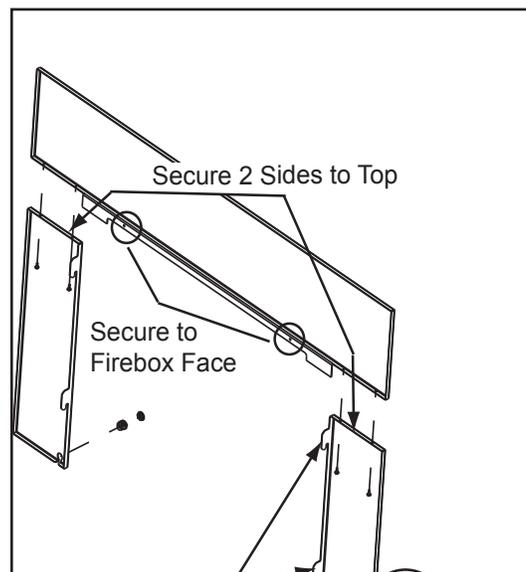

Figure 21.2
2. Using a 102 to 152 mm long Phillips head screw driver attach the side surrounds to the top surround using (2) #8 sheet metal screws on each side provided with the kit. **Figure 21.2**.
5. Slide the assembled trim set over the surround set. and then over the appliance matching the mounting tabs on the side pieces with the slots on the appliance. **Figure 21.2**.
6. Align the 2 screws in the top surround piece to the 2 alignment holes on the appliance top. Secure in place. **Figure 21.2**.